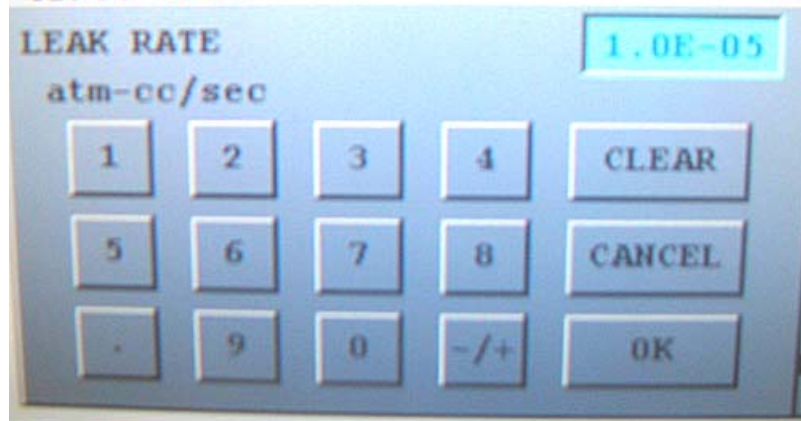

Figure 2-29 Leak Rate Keypad
3. Press the Split Flow blue check button. The leak detector keypad appears (Figure 2-29 on page 2-58).